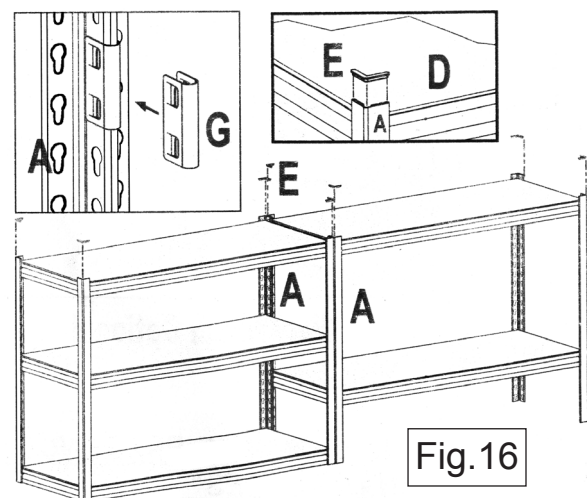

Fig.16
4.14 See Fig.16. Place the two units end to end as shown below and join them together using the 2 post clips (G). Insert a post cap (E) into the top of each 'A' post.